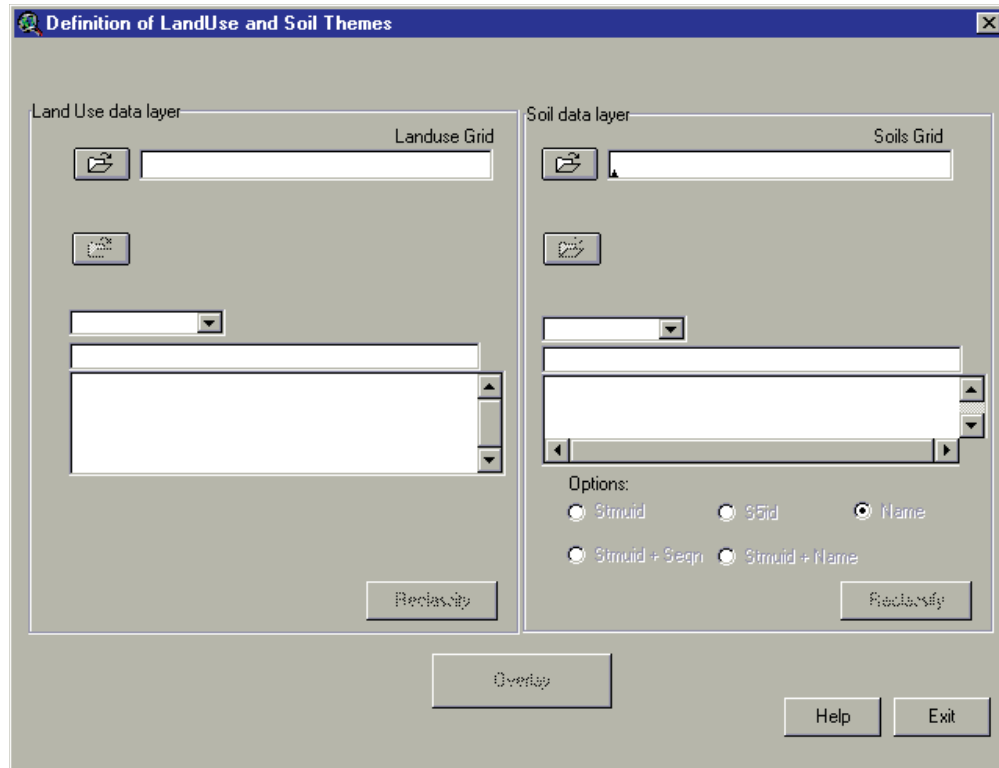

Figure 15.28
2. The Definition of Landuse and Soil themes dialog box will open (Figure 15.28).